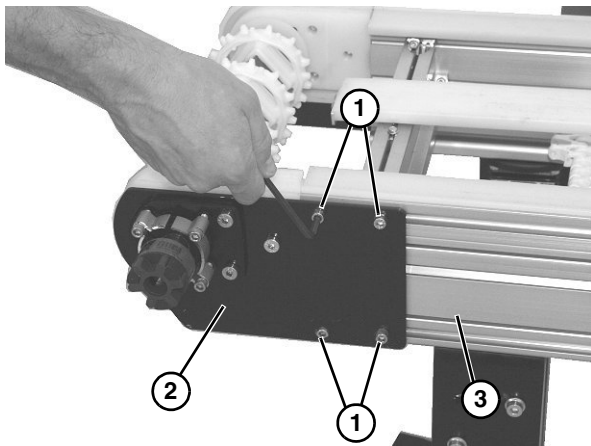

Figure 26
2. Loosen the four socket head screws (**Figure 26, item 1**). Repeat on opposite side.
3. Remove the drive tail assembly (**Figure 26, item 2**) from the frame (**Figure 26, item 3**).